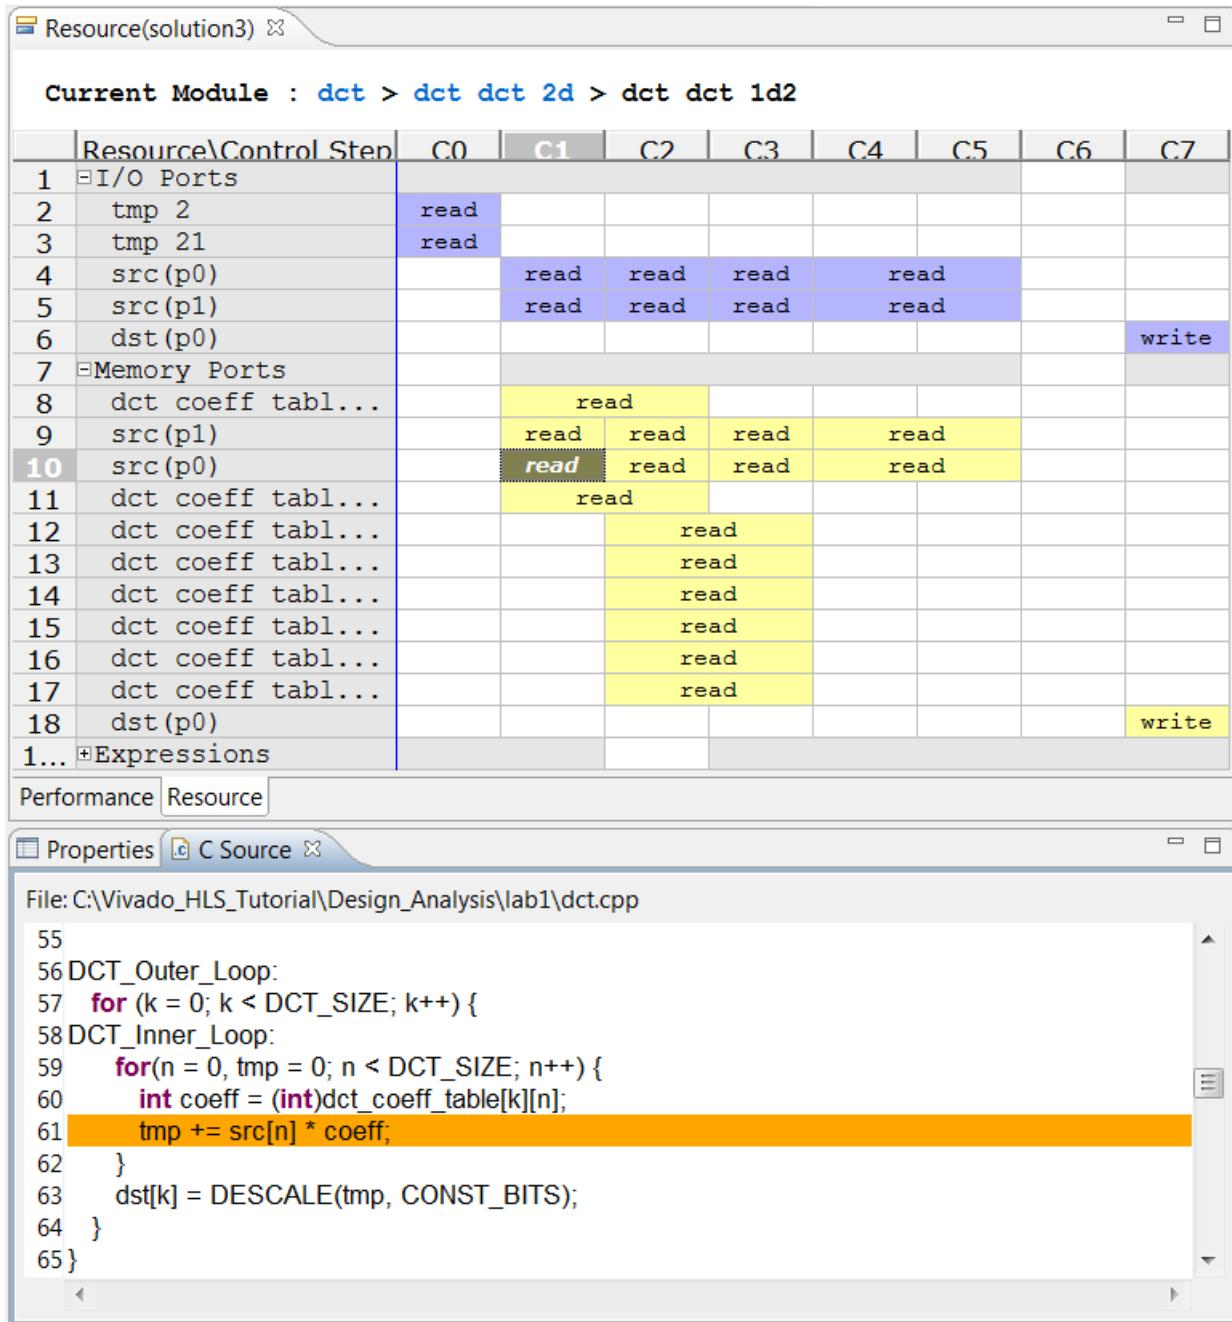

Figure 6-25: Memory Resource SRC and Source Code
The rows list the resources in the design. In Figure 6-25, the memory resources are expanded.
Figure 6-25 shows the memory accesses on block RAM `src` are being used to the maximum in every clock cycle. (At most, a block RAM can be dual-port and both ports are being used). This is a good indication the design may be bandwidth-limited by the memory resource. To determine if this really is the case, you can examine further.
17. Right-click and select **Goto Source** to see the view shown in Figure 6-25.